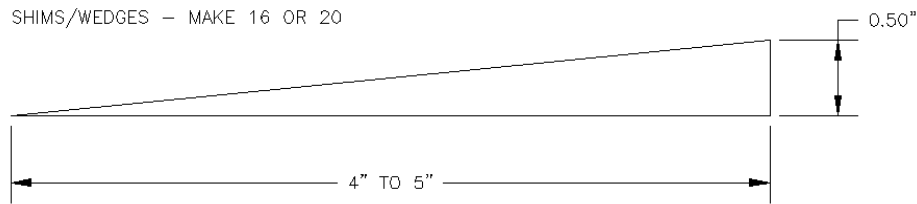

Figure 5-2: Wooden wedges
3. Shims/wedges should be placed on the subbase, as shown in Figure 5-2. Use 2 to 3 per stack to obtain desired gap between baseplate and sub-base. Normal gap is 1" to 1-1/2".